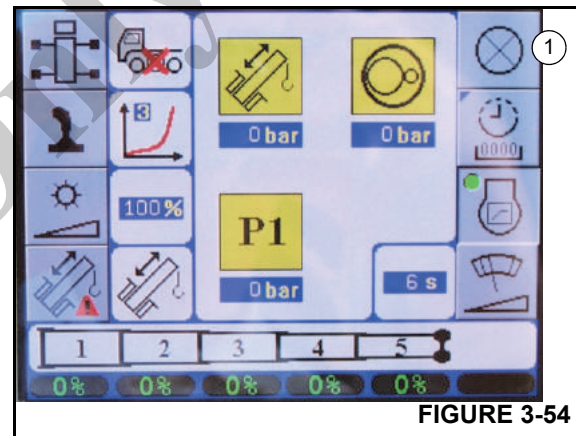

FIGURE 3-54
2. Press the F5 button (1) (Figure 3-54).